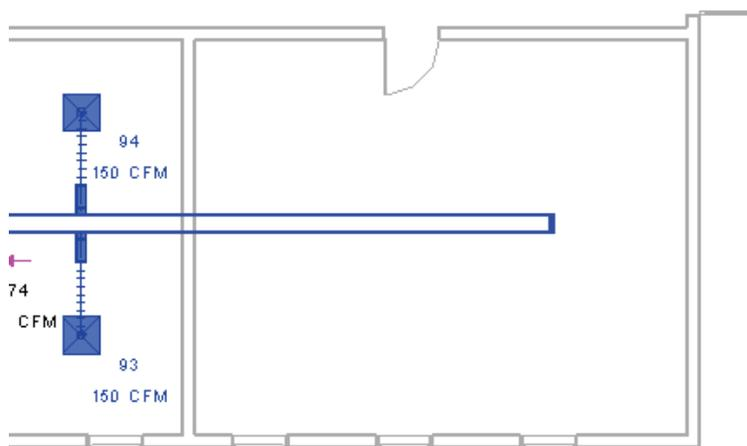

Figure 2–55
- Select the **Air Terminals** and associated ductwork as shown in Figure 2–55.